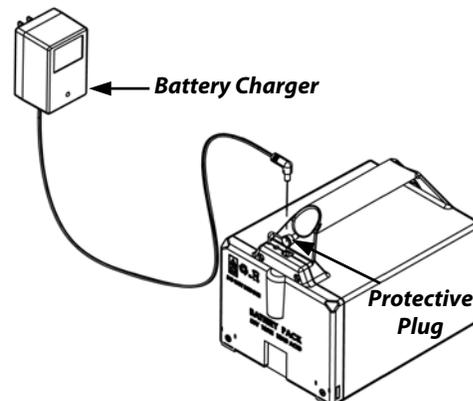

Figure 3
1. Remove the Protective Plug from the Charger Receptacle on the Battery and plug in the round Charger Connector (**Figure 3**).
3. The design of the NEUTON Charger is to automatically turn itself OFF when charging is complete, which will be between eight (8) and fourteen (14) hours for a completely discharged Battery. A Battery that may not be completely discharged may take a shorter amount of time to completely charge. Once charging is complete, the LED on the Charger will change from RED to GREEN and the RED LED on the Battery will turn OFF indicating that the Battery is fully charged and is ready for use.